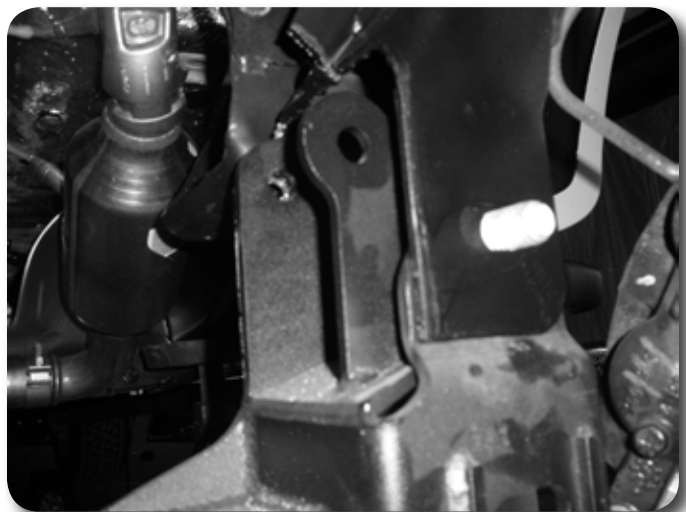

Figure 22
33. Install the rear crossmember Figure 22